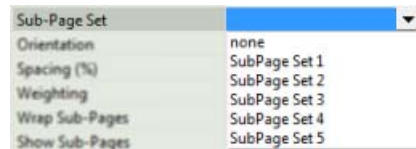

FIG. 104 Sub-Page View button (General) Property - Sub-Page Set
2. In the *General* tab of the Properties window, select a Sub-Page Set from the Sub-Page Set drop-down menu. This menu lists all Sub-Page Sets that have been defined for this project (FIG. 104):